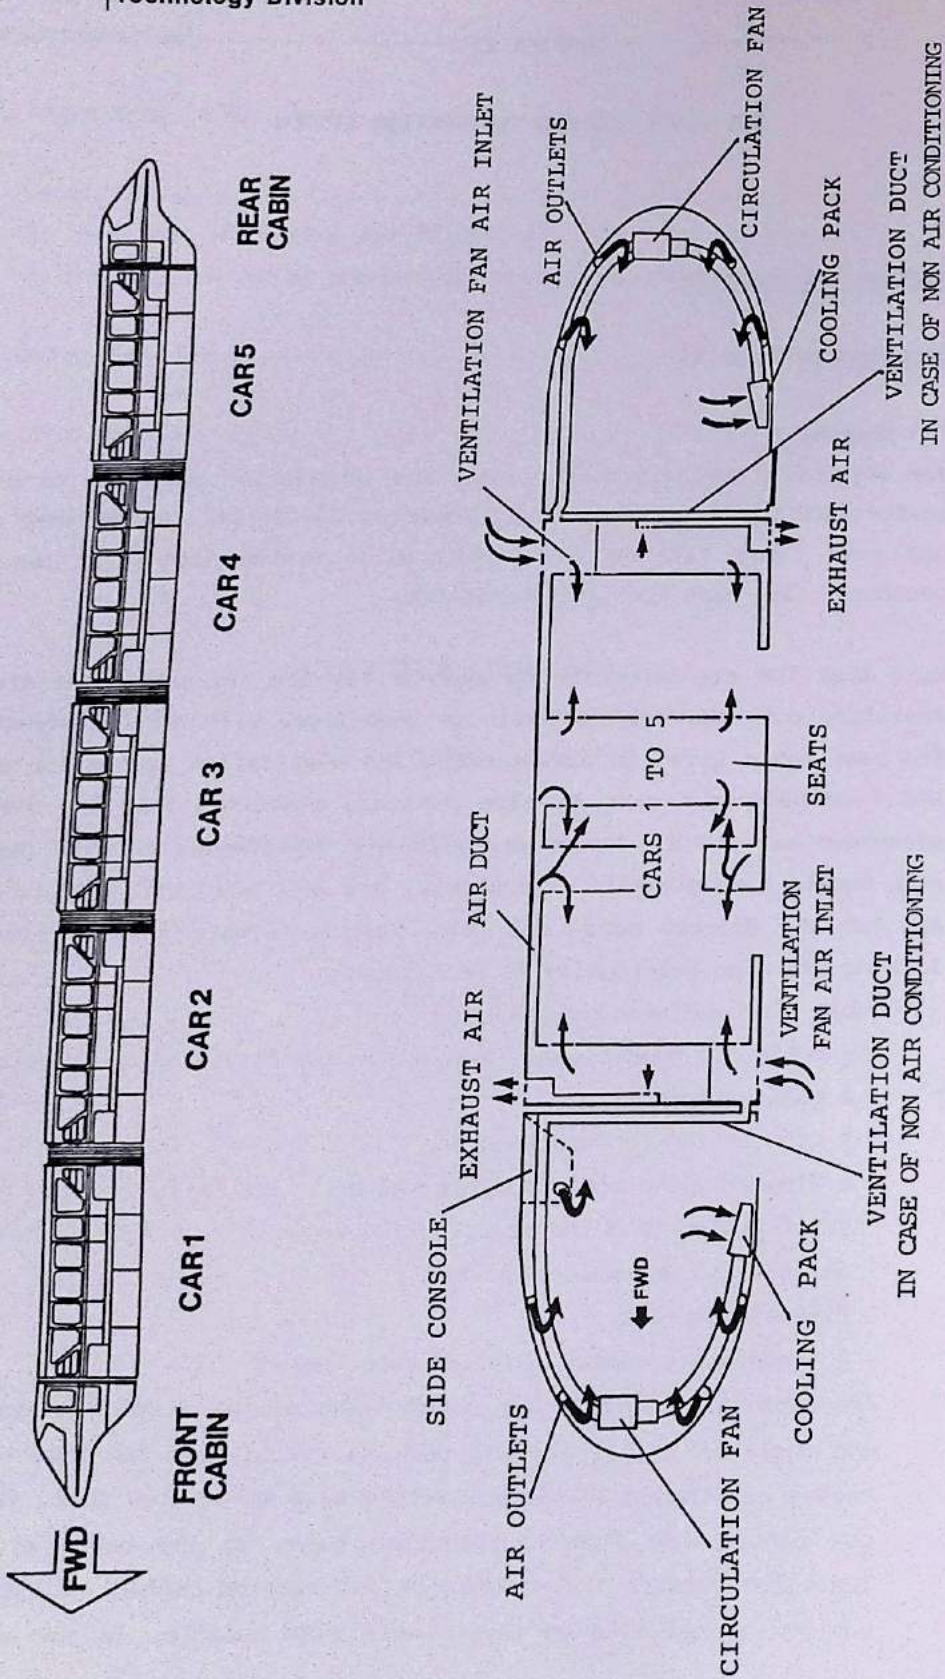

Fig. 1 Air conditioning - General Schematic
1. Description and OperationA. Description (Fig. 1)